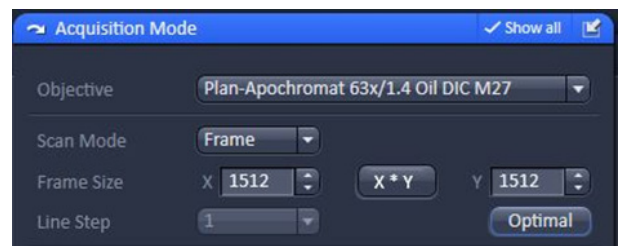

Fig. 141 Airyscan: Settings for number and size of pixels
- The required number and size of pixels to achieve increased resolution with the Airyscan is set automatically by pressing the **Optimal** button (Fig. 141).